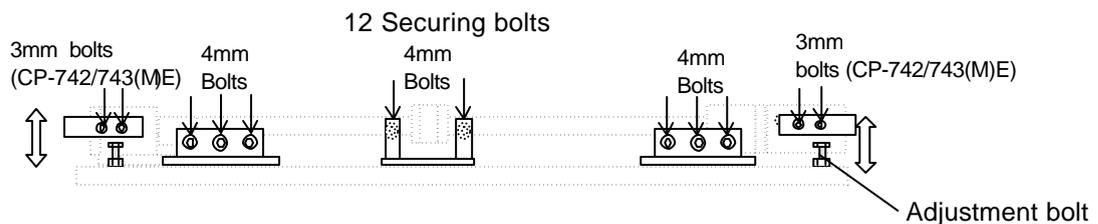

Figure 15
- If the height of the reference rail is more than +/-0.1mm than that of the adjustable rail, (or the reference rail itself is uneven) adjust the reference rail height (flatness), by loosening the bolts indicated in Fig. 15 and adjust, using the bolts under both sides of the reference rail.